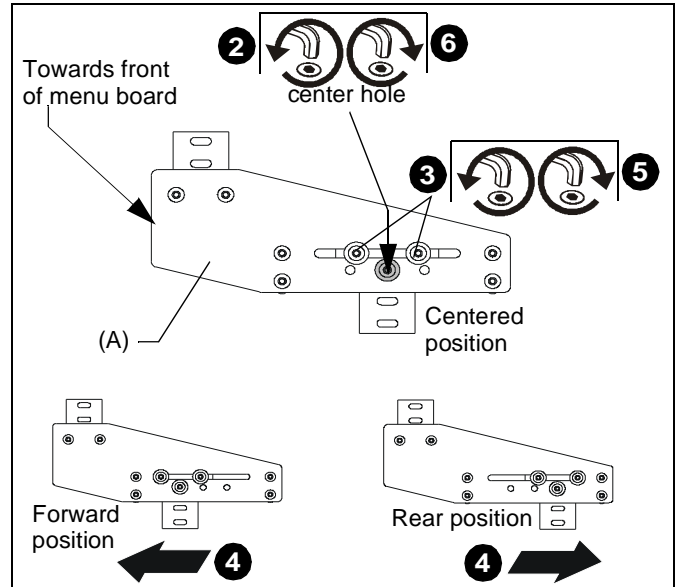

Figure 1
2. Loosen and remove fastener and washer from center hole on each side of array offset (A). (See Figure 1)
3. Loosen two outside fasteners on each side of array offset (A).
4. Slide offset to appropriate position. (See Figure 1)
6. Install and tighten fastener with washer (removed in Step 2) into appropriate hole on each side of offset. (See Figure 1)